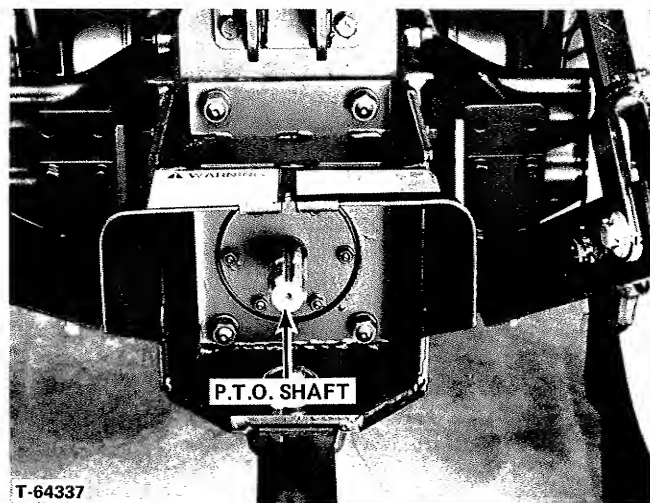

FIGURE 27
P.T.O. SHAFT OPERATION (Figure 27)